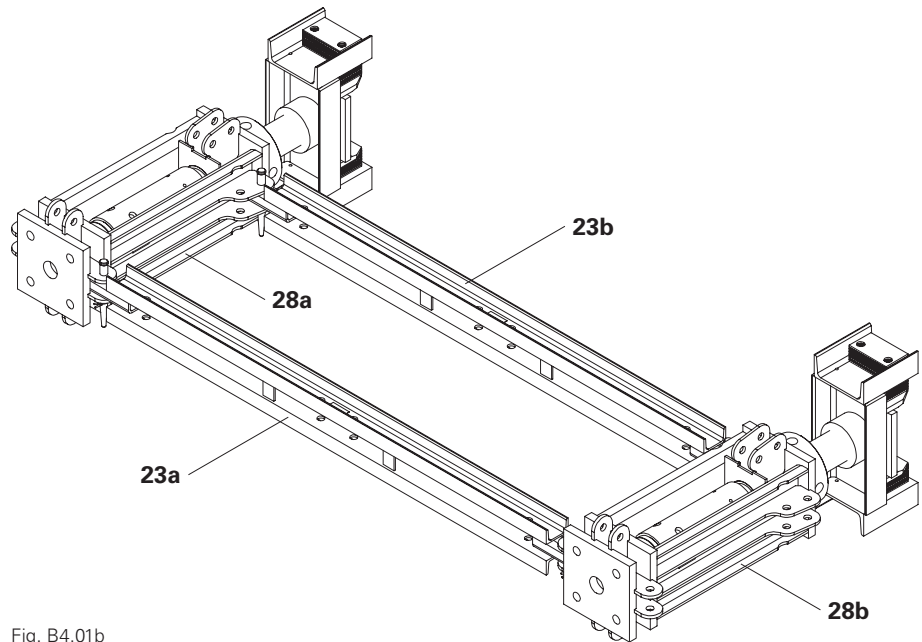

Fig. B4.01b
5. Connect the upper horizontal ledger VST 200 (**23b**) to the second head spindle VST 100 (**28b**) using 1x fitting pin \varnothing 21 mm (**9**) and secure with cotter pin 4/1, galv.(Fig. B4.01b)